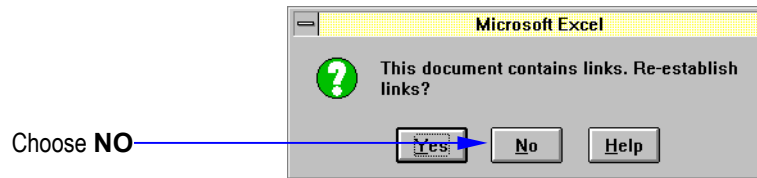

Figure 3-2 Re-Establish Links Dialog Box.
4. *Excel* will ask whether to re-establish links as shown in Figure 3-2. Choose **NO**.